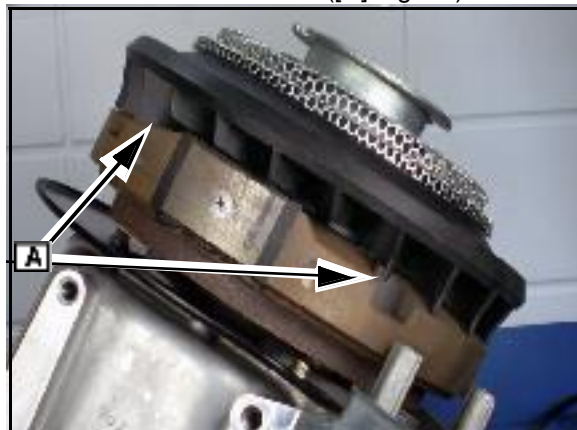

Fig. 31
4. Position the fan to allow for the magnet to fit in the fan cut-out ([A] Fig. 31).